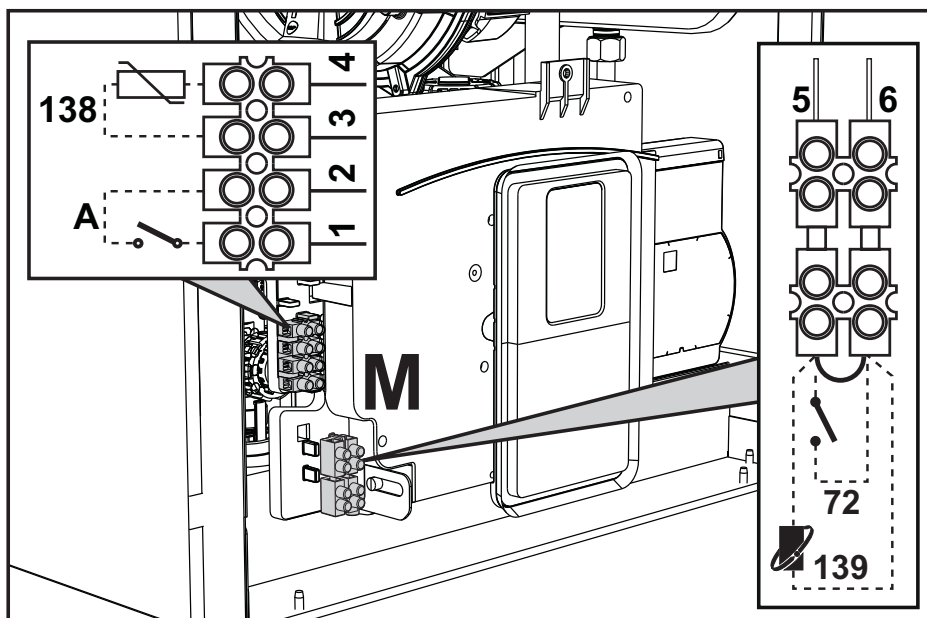

fig. 29
The terminals can be accessed after removing the front panel ("Opening the front panel" on page 411). **Terminals 1-2 and 5-6, indicated in fig. 29, must be with voltage-free contacts (not 230V).** The arrangement of terminals for the various connections is also given in the wiring diagram in fig. 81.
2.5.5 ON/OFF switch configuration (ref. A in fig. 29)